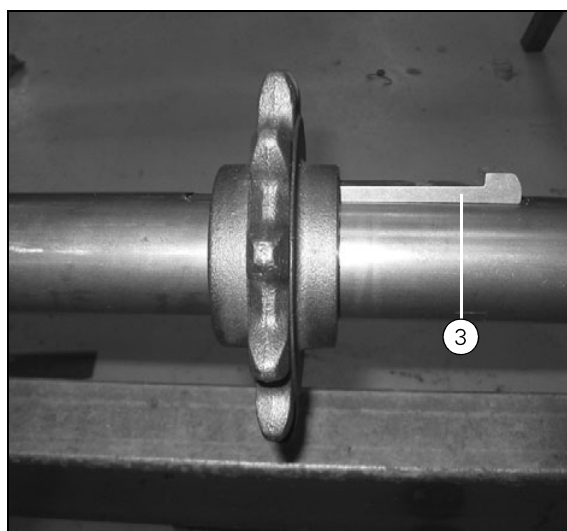

Fig. 23
8. Push the spacing sleeve (E) right up to the guard on both sides and tighten.
9. Position the sprockets at the distances indicated in (Fig. 24) and fasten with gib-head keys (3) (Fig. 23). Knock the keys in from the side on which the shaft protection tubes (C) have not yet been fitted.